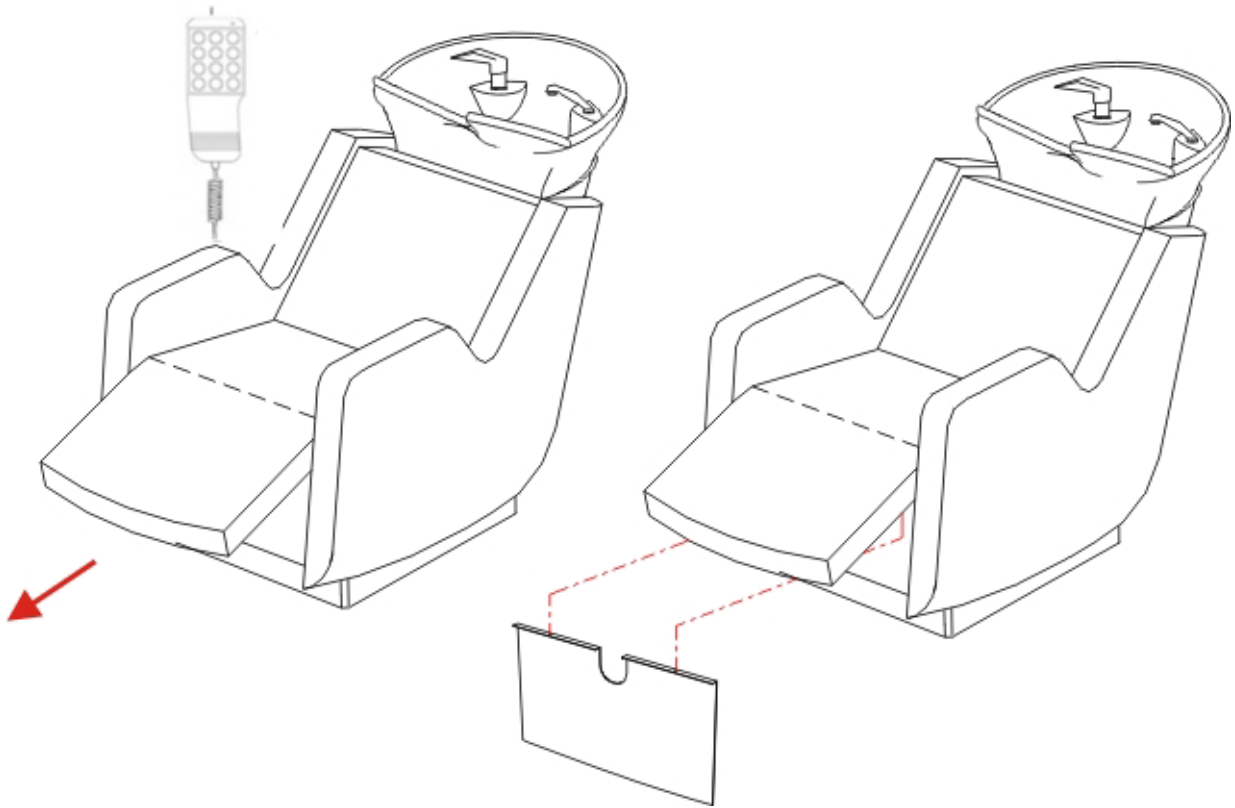

Fig.3
4) Operate the remote control for leg raise and lift it up completely. Disassemble the front aluminium panel, paying attention to avoid scratches on the vinyl leather upholstery. ( Fig.3)